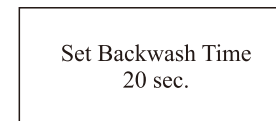

Figure 9
C. Backwash time setting, as shown in Figure 9, the setting method is the same as filtration working time.